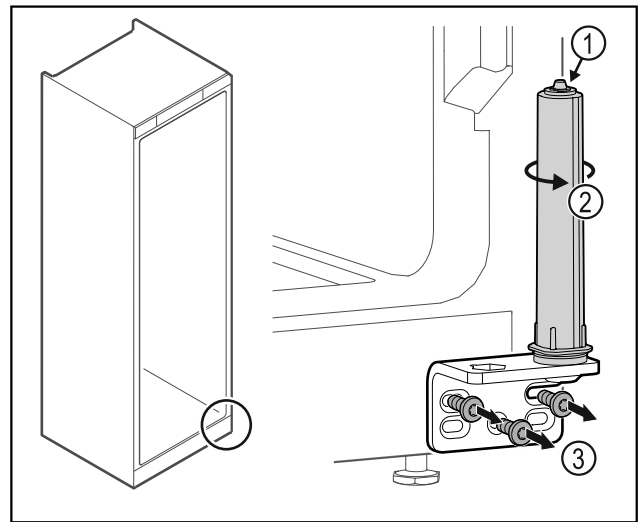

Fig. 27
- ▶ Do not disassemble the door closing system Fig. 27 (1).
- ▶ Turn the closing system Fig. 27 (2) until it clicks.
- ▶ Unscrew the hinge Fig. 27 (3).